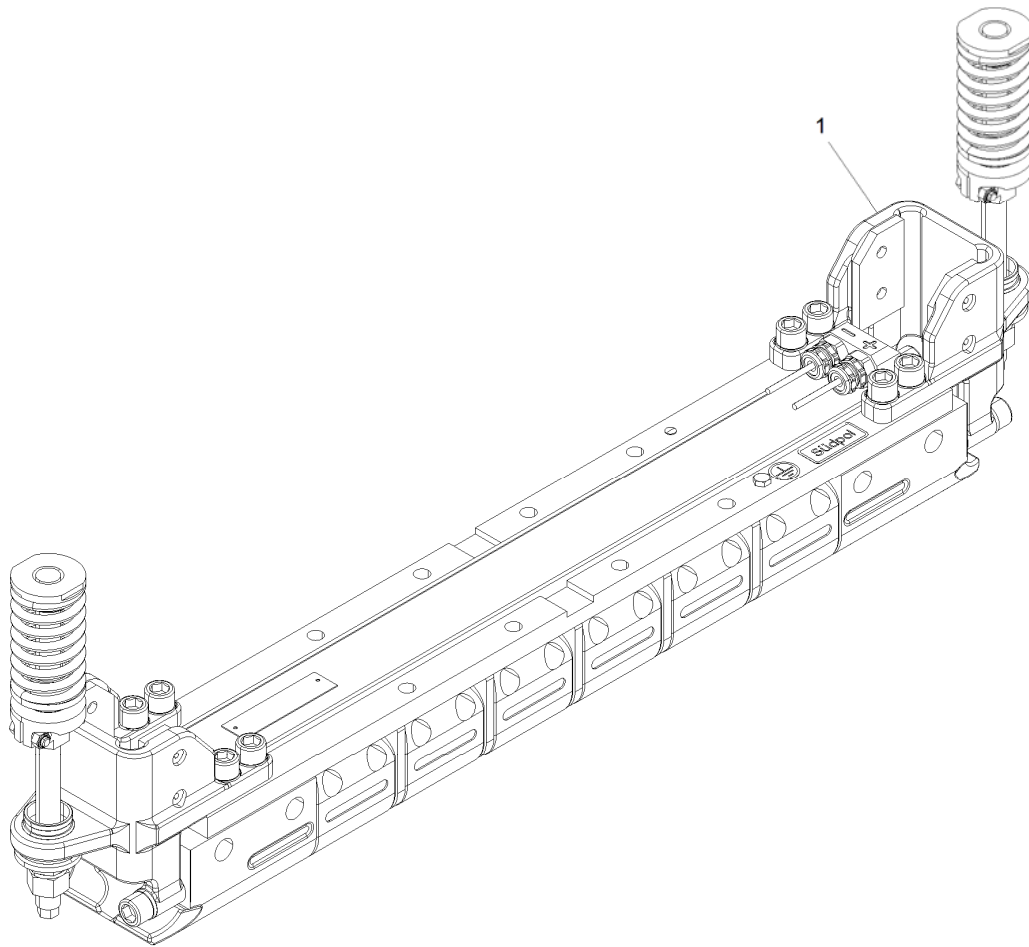

Figure 1-1: Track Brake Assembly
The track brakes are used during emergency brake applications, maximum braking, and when commanded by the vehicle operator. The track brake assembly, see Figure 1-1, consists of a spring suspension and articulated magnetic track brake suspended above the rail between the wheels of a truck.
The track brake assembly, (1) Figure 1-1 consists of a spring suspension and articulated magnetic track brake suspended above the rail between the wheels of a truck. Force transfer members connect the track brakes on each side of the truck to the truck side frame to maintain the track brake magnets over the top of the rail. The force transfer members also provide stops to transmit the braking force generated by the electro-magnetic track brake to the truck side frame.